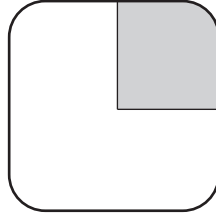

Fig. 2.1
- (a) Select a field of view so that you can observe the different tissues as shown by the shaded area in Fig. 2.1.
- (i) Draw a large plan diagram of the region of the stem on L1 shown by the shaded area in Fig. 2.1.